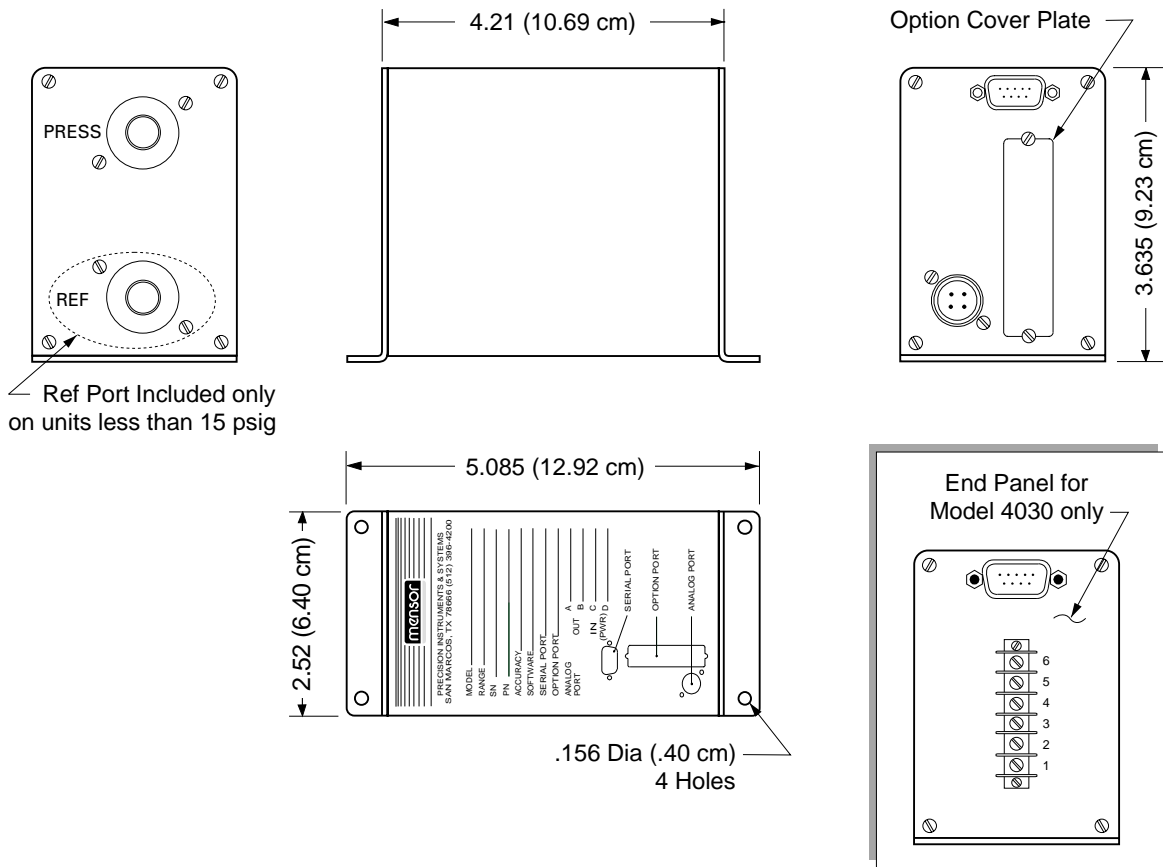

Figure 7.1 - Outline and Dimensions (Surface Mount)
2.52" x 3.635" x 5.085" (6.40 cm x 9.23 cm x 12.92 cm). (See figure 7.1).